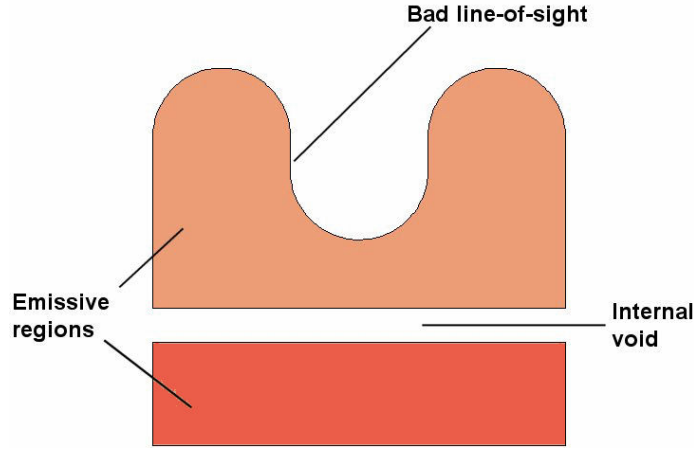

Figure 26: System that violates the assumptions of the **TDiff** radiation model.
- All radiating facets have a clear line-of-sight to infinity. In other words, the projection of a normal vector from any point on an emissive boundary intersects the solution volume boundary. Figure 26 illustrates a system where the conditions are violated.